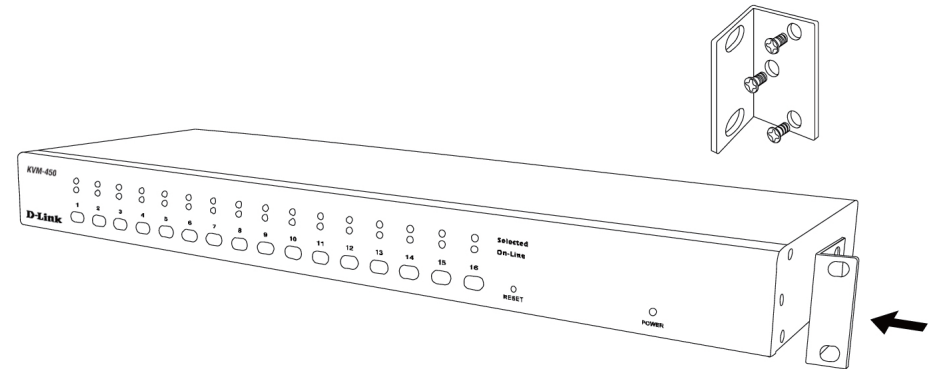

Figure 11 - Rack Mounting
Figure 11 shows you how to attach the mounting brackets to the KVM Switch unit for a standard 19-inch rack cabinet.
1. Attach the mounting brackets onto the sides of the KVM Switch unit using screws. (Figure 11)